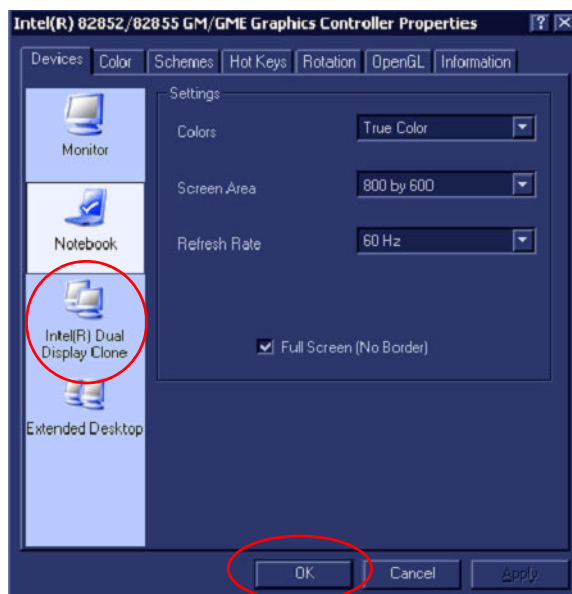

Figure 3-53 Intel® Dual Display Clone
9.) Select the **Intel® Dual Display Clone** icon and press **OK** - see Figure 3-53